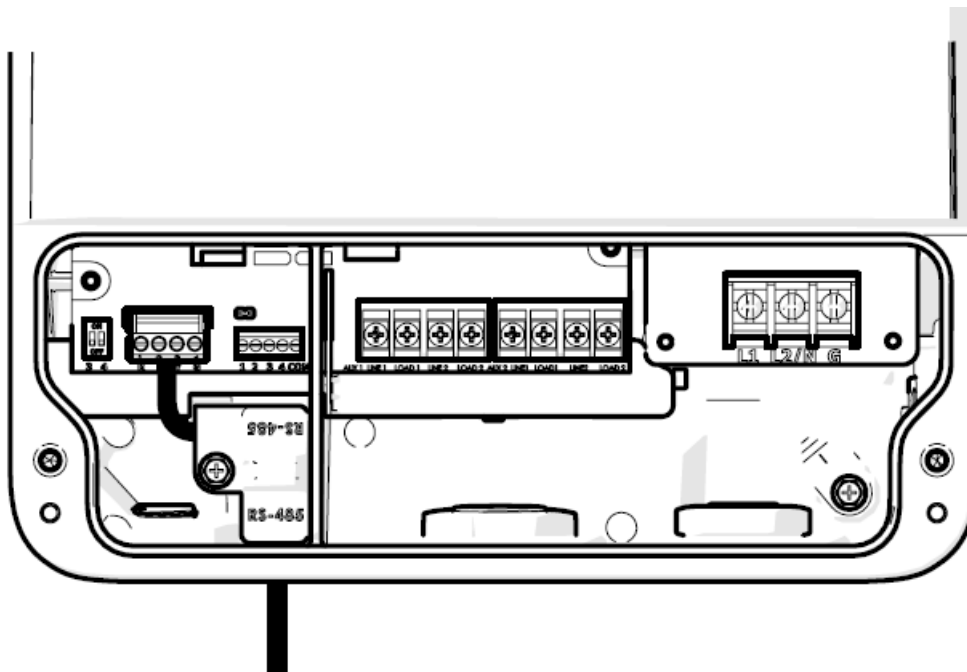

Figure 8. RS-485 Quick Connect Port with Wiring
used. Bond the motor using the external bonding lug provided on the motor frame. See Figure 8.
- RS-485 quick connect port (see Figure 8)
Please see Figure 8 for RS-485 wiring instructions.